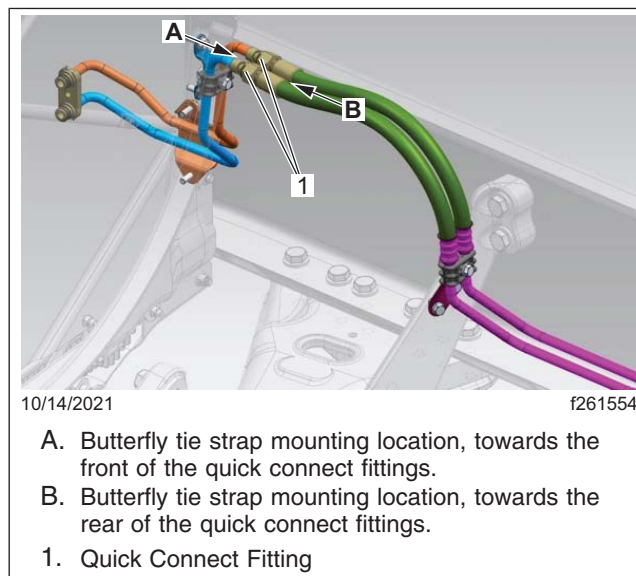

Fig. 1, Forward Quick Connect Fittings
4. Locate the forward transmission oil cooler line quick-connect fittings, near the in-frame mounted routing clamp. See Fig. 1.
5. Loosely install a butterfly tie strap TYC DCT110HIR around the soft lines, towards the rear of the quick-connect fittings. See Fig. 1, ref. B.
8. Loosely install a butterfly tie strap TYC DCT110HIR around the hard lines, towards the front of the quick-connect fittings. See Fig. 1, ref. A.